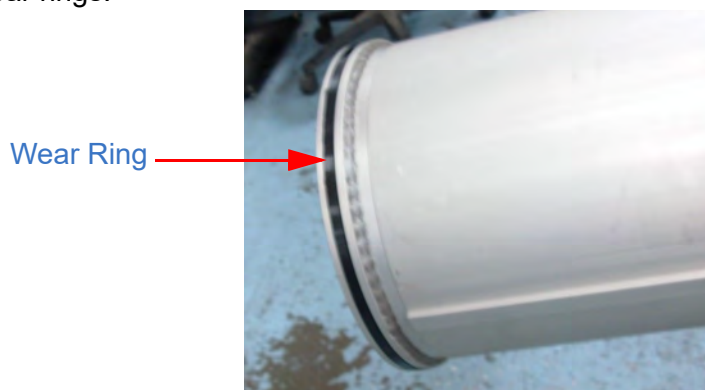

Figure 8-14 Wear Ring in Butt Plate Groove
- Slide the wear ring down into the groove (Figure 8-14). For 9.12 and 10.00 inch tubes, use both wear rings.